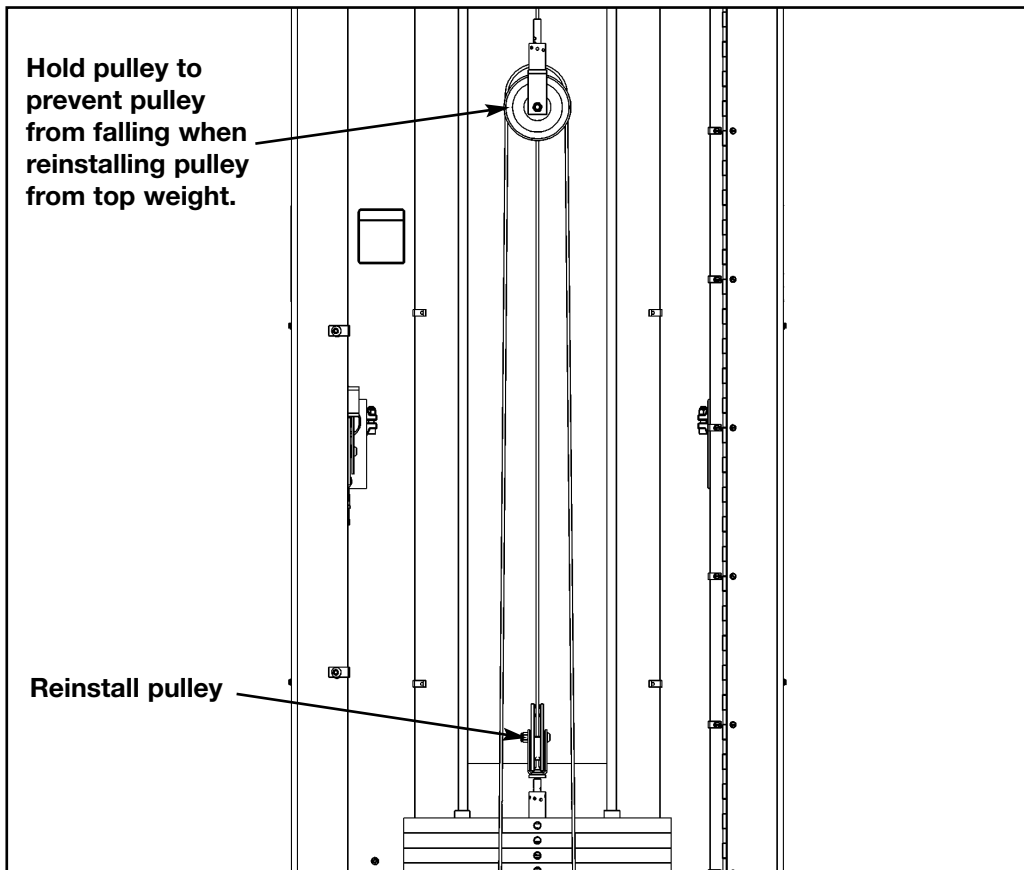

Figure 7
- O. Move pulley and cable back inside the column and reinstall pulley/cable back onto top plate. See Figure 7.